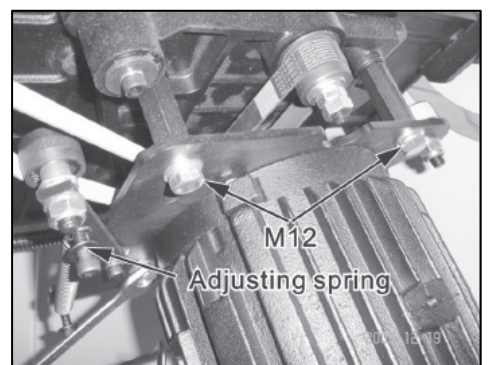

Fig. 51
4. Loosen the three M12 bolt (Fig. 51)